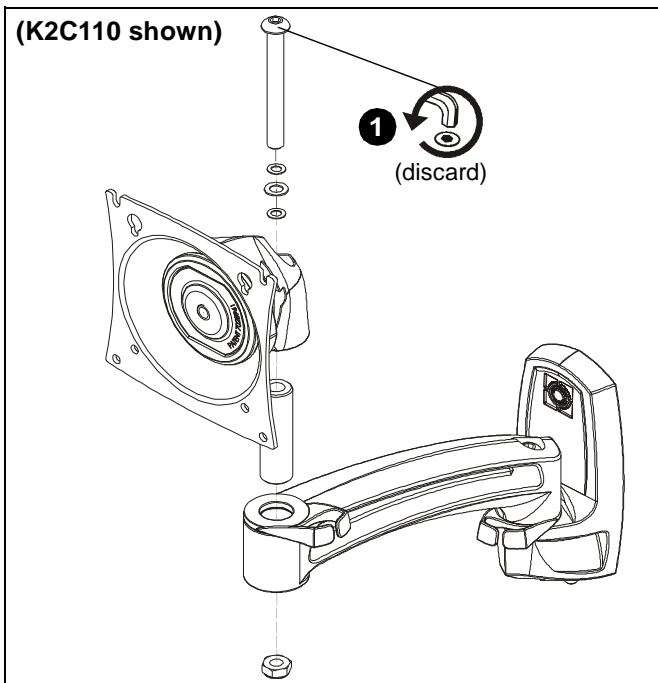

Figure 1
1. Remove button head cap screw, washer, pivot pin and lock nut to disassemble head from mounting arm. All hardware may be discarded. (See Figure 1)